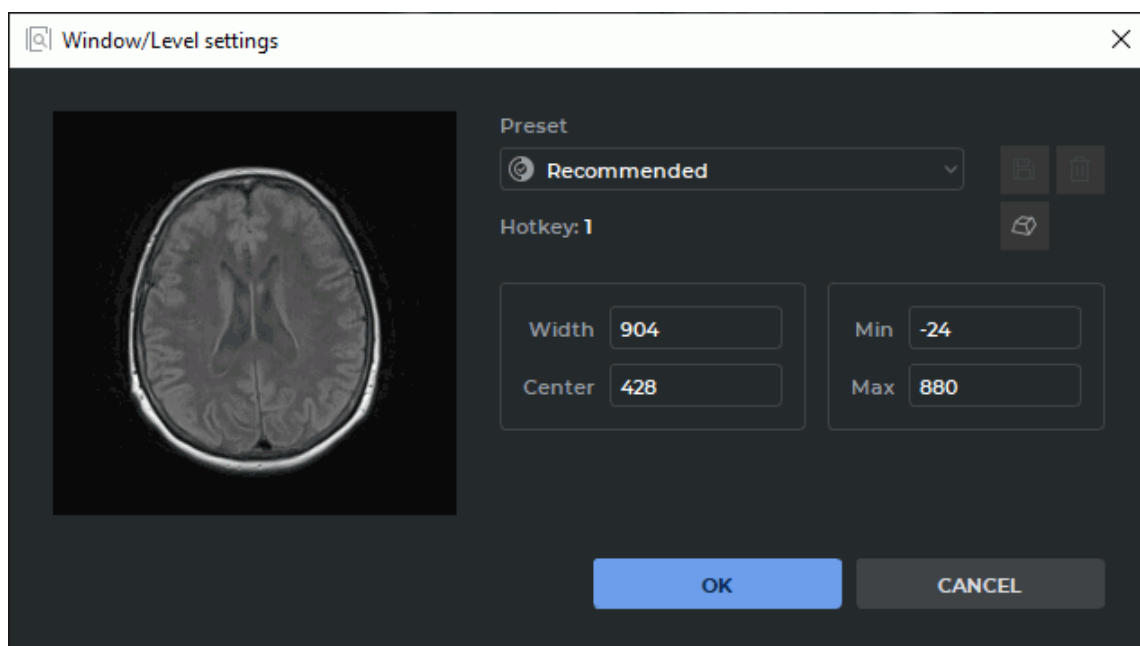

Figure 2.21: Dialog box **Window Level settings**
- **Custom W/L...** — the window width and level parameters are provided by the user in the **Window Level settings** dialog box (see Figure 2.21) and are used for all the images in the series.
To customize the window width and level settings, click the **Custom W/L** button . In the **Window Level settings** dialog box (Figure 2.21) that pops up, provide the window width and level parameters or choose the preset values you need from the **Preset** dropdown list. On the **Preset** list, you will find standard preset values, as well as presets saved by the user earlier (see Section 2.15.2). Standard preset values are marked with icons.
To use the values provided in the **Window Level settings** dialog box (Figure 2.21) when viewing merged series, proceed as follows:
1. In the list of layers for the merged series, choose any except the first (base) layer. For details on series fusion, see Chapter 4. In the **Window Level settings** dialog box (Figure 2.21), provide the window width and level parameters or choose the preset values you need for this layer.